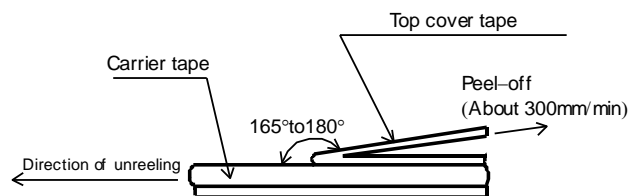
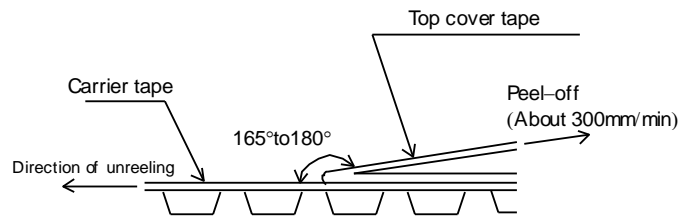

Figure-5
Figure-6
- 5). The peel strength of the top cover tape shall be within 0.1N to 0.5N on the test method as shown in the following TWMC32: Figure-5, TWMC50,63: Figure-6.